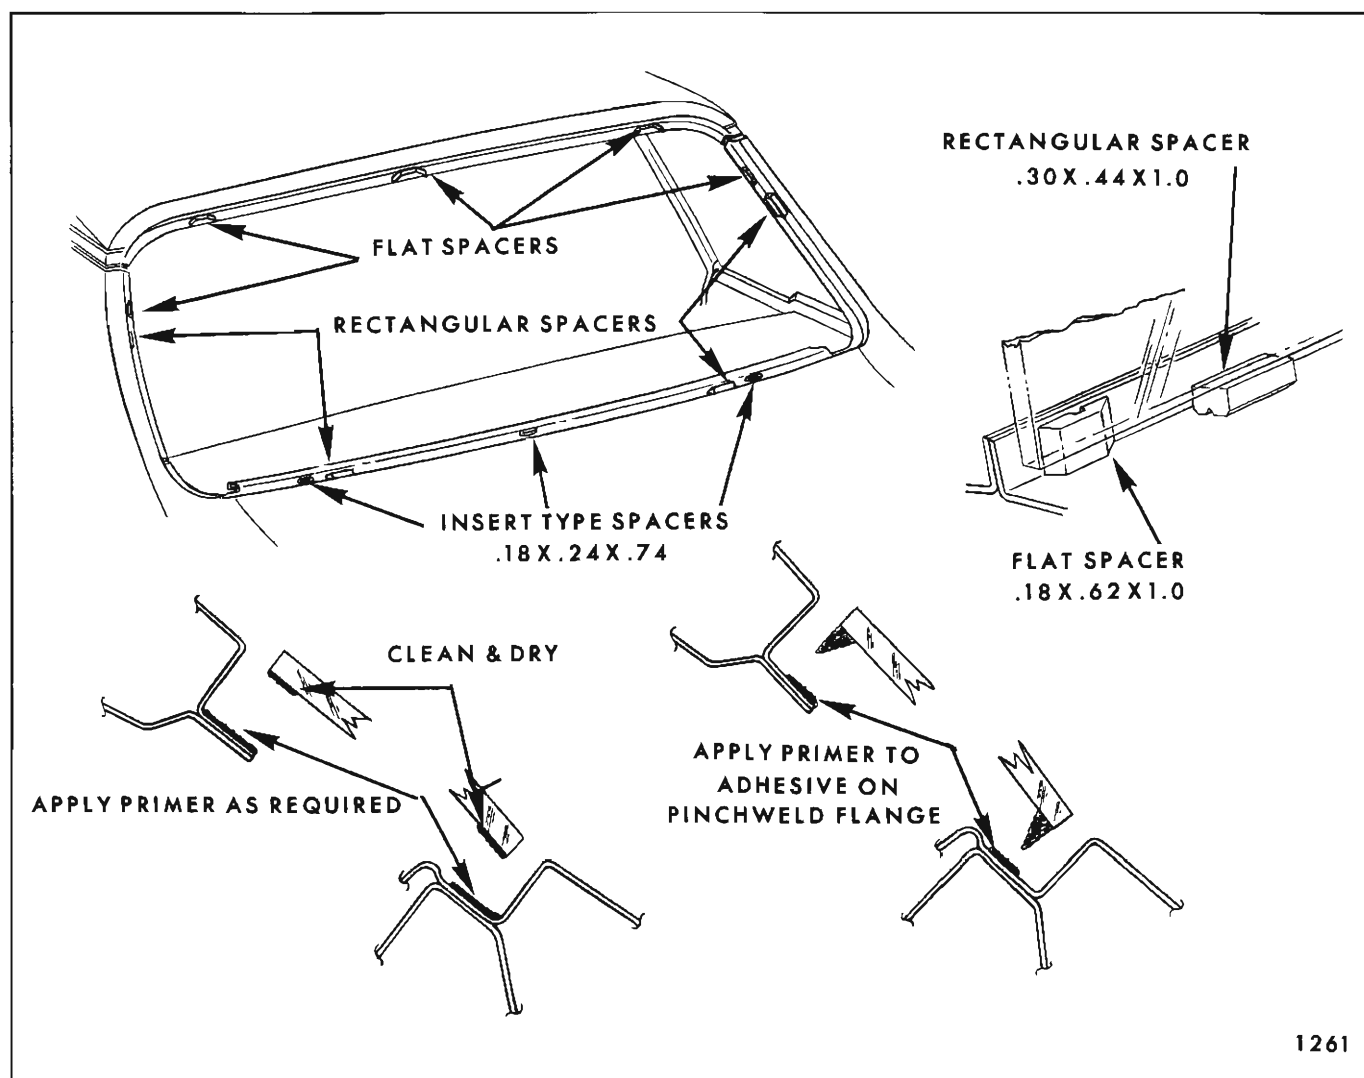

Fig. 2F4—Back Window Preparation and Spacer Installation
3. On all styles except "80" styles, install three (3) insert spacers (.18 x .24 x .74 - Part No. 4410043) into slots in compartment front and shelf panel across lower edge of back window opening (see Fig. 2F4).
4. With black weatherstrip adhesive, cement four (4) rectangular spacers (.30 x .44 x 1.0 - Part No. 4871330) to lower and side back window opening rabbet (see Fig. 2F4).